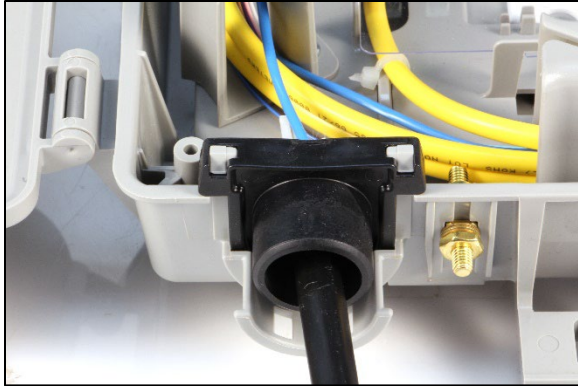

Figure 3
2. Slit cable entry grommet and feed buffer tube through grommet (Figure 3)